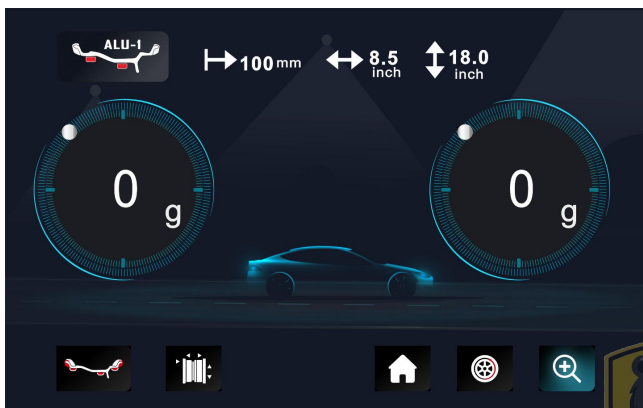

Fig. 8
4.2.7. After finishing mounting the counterweights, put down the guard and press , to perform balancing spin again, if it comes out 00 00, means balancing succeed. (Fig.8)